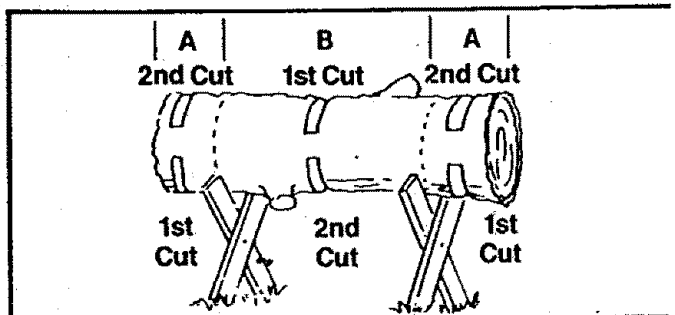

Figure 36
5. BUCKING — USING A STAND (Figure 36):